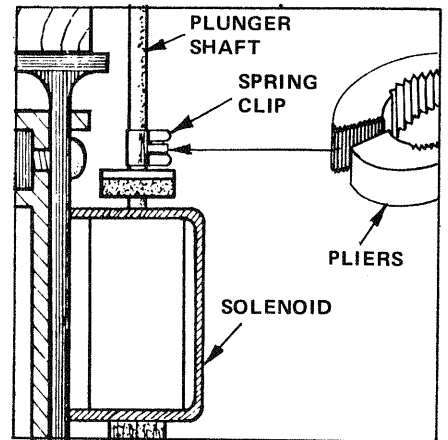
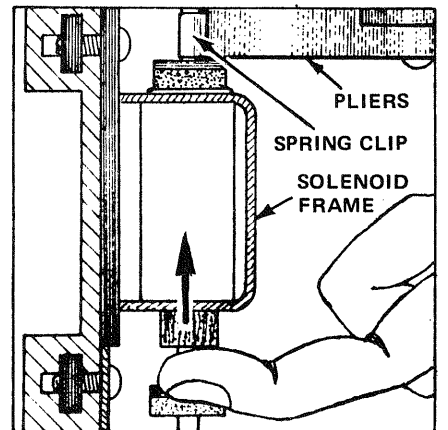

FIGURE 9-6 Grip the tabs with the pliers.
FIGURE 9-7 Push up on the plunger slug.
- A. Compress the tabs on the Spring Clip with a pair of slip-joint pliers as shown in FIGURE 9-6. Keep the Spring Clip tabs compressed (loose on the plunger shaft) and push up on the slug at the bottom of the plunger shaft (see FIGURE 9-7) until the bottom of the slug is flush with the bottom of the Solenoid frame.